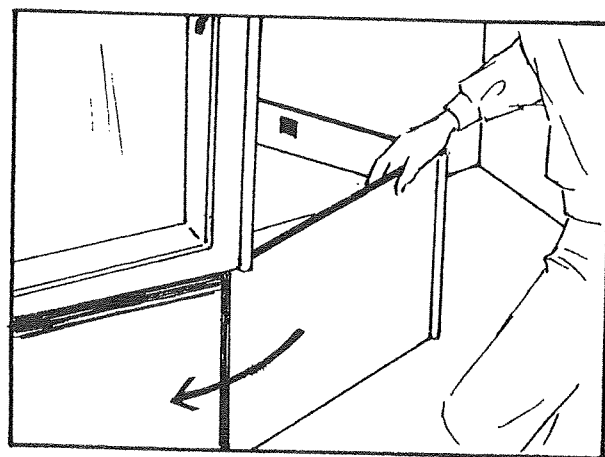

FIGURE 14
22. While holding the wardrobe in a vertical position, unfold the wooden rest from its storage position against the interior trailer wall and slide it under the wardrobe. See Figure 14.